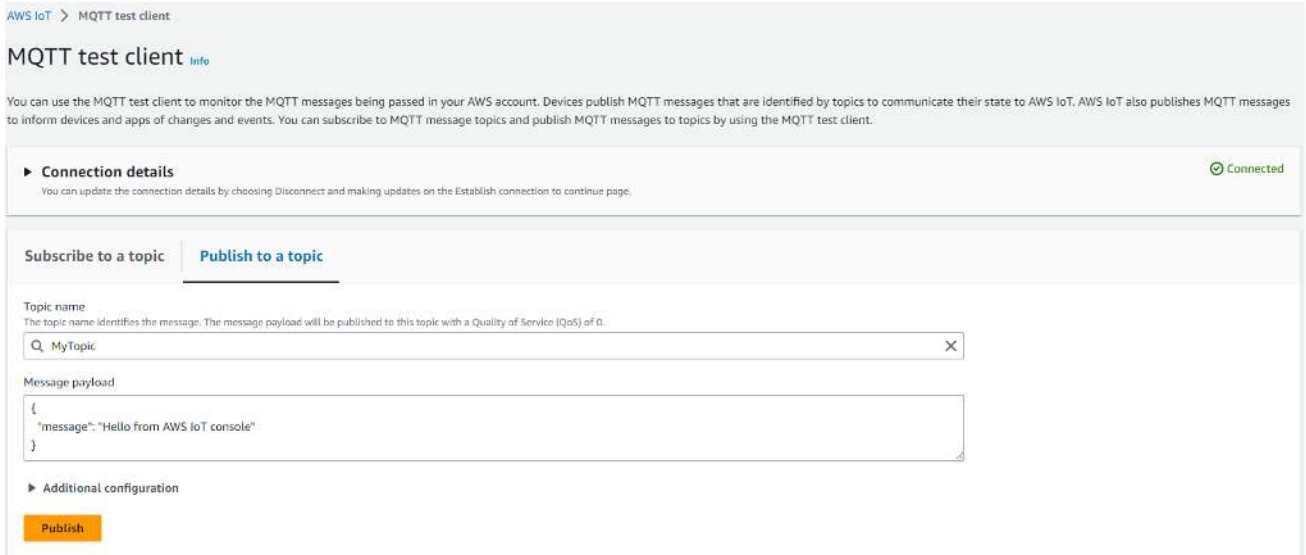

Figure 4: Publish to a Topic on MQTT test client in AWS IoT console
3. On **message payload** field, type the text `Hello from the AWS IoT console` message then click **Publish**. See Figure 4.